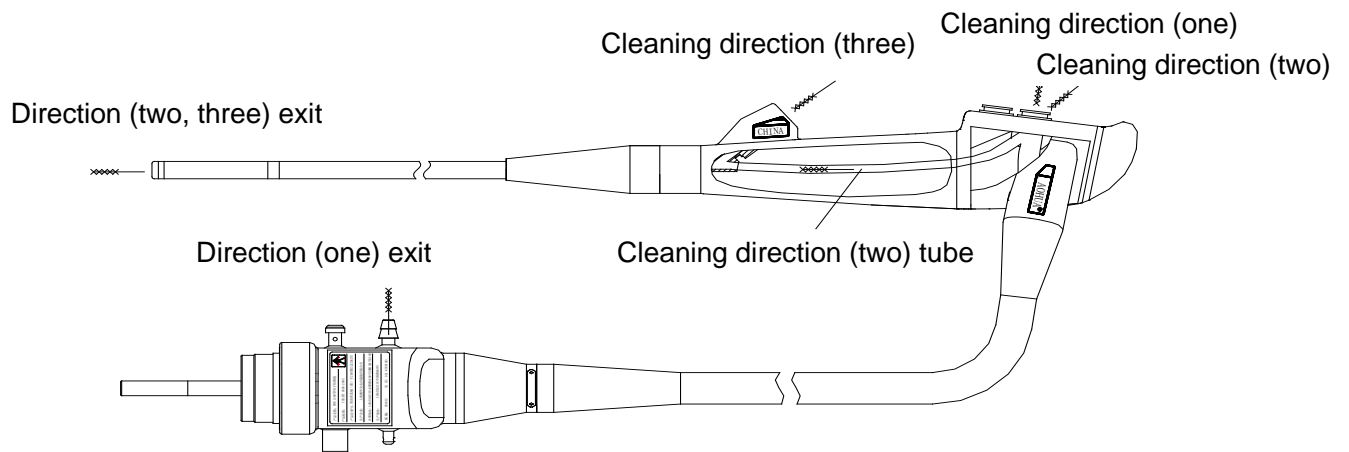

Figure5.1
(4)Insert a cleaning brush into the instrument channel and the suction cylinder to brush the inner wall of the instrument channel. (See Figure 5.1)